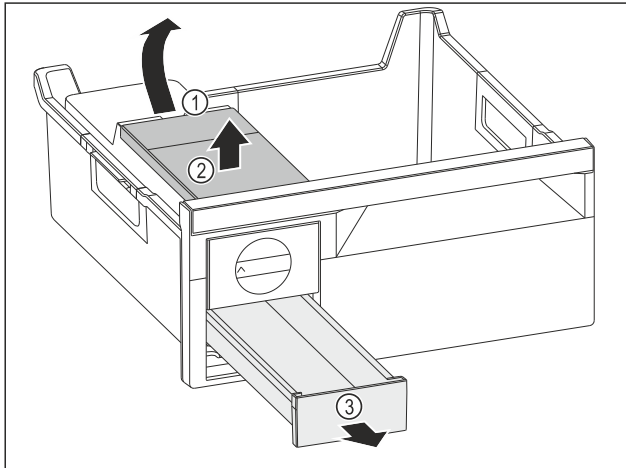

Fig. 86
- ▶ Removing the water tank: Lift the water tank by the recess Fig. 86 (1).
- ▶ Remove the water tank Fig. 86 (2) upwards.
- ▶ Remove the ice cube drawer Fig. 86 (3) to the front.